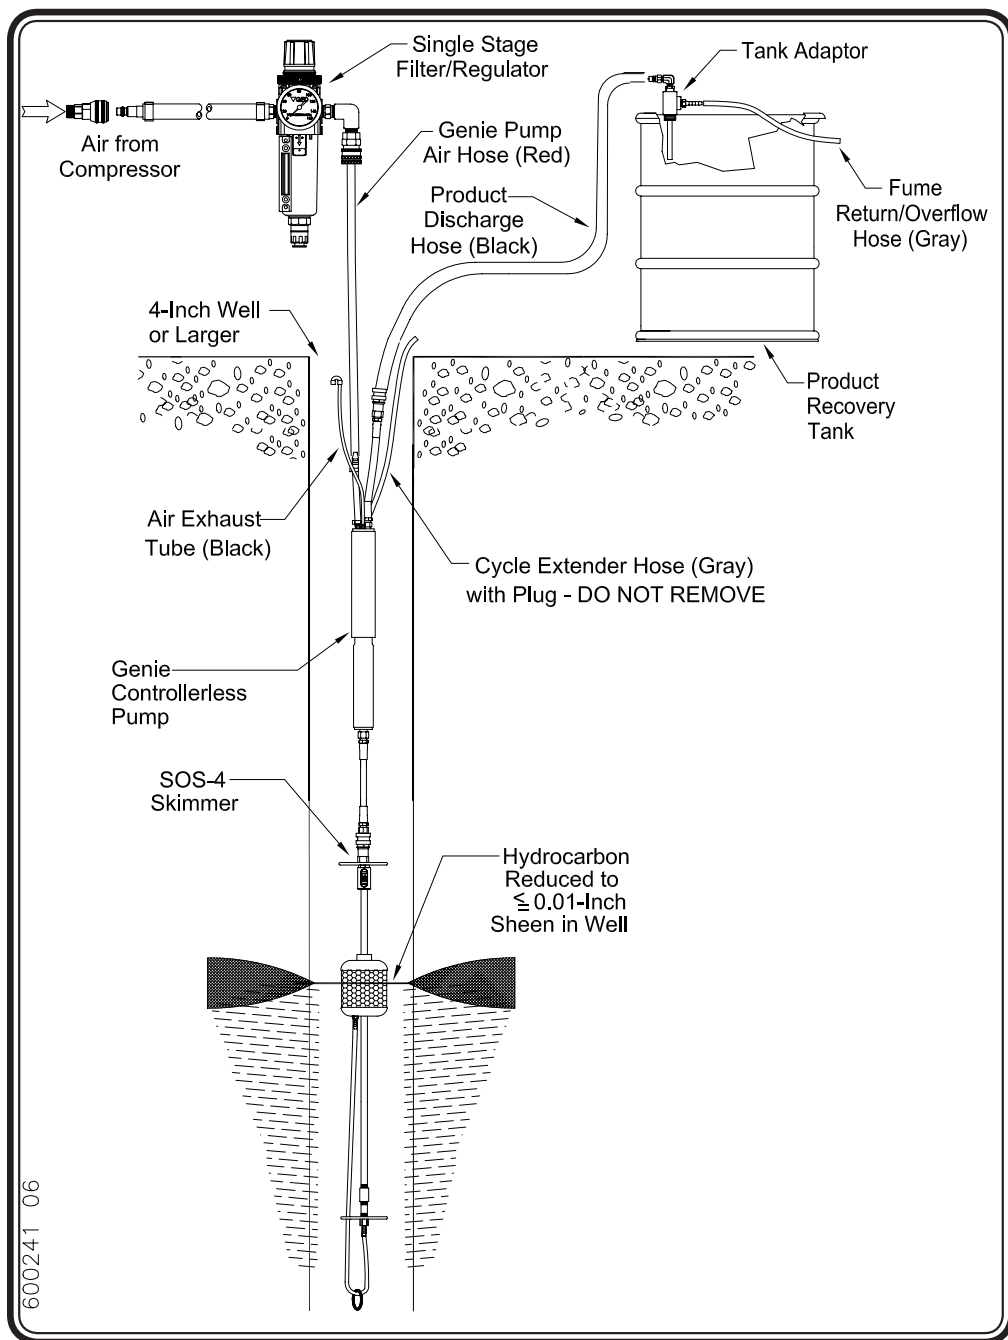

Figure 19 - Genie System with Floating Intake Skimmer (for Product Only)
- a. Attach the male fitting of the Genie pump air hose to the single stage filter/regulator. (See Figure 19)
- a. Push the air exhaust tubing into the red-collared tubing fitting on the pump. (See Figure 19)
- a. Thread the tank adapter into a 3/4 inch NPT fitting on the top of the product recovery tank. (See Figure 19)
- a. Attach the fume return/overflow hose to the tank adapter via hose barb and clamp. **(See Figure 19)**
- a. Attach the female fitting of the product discharge hose to the tank adapter in the product recovery tank. **(See Figure 19)**
- c. Attach the socket on the discharge end of the hose to the single stage filter. **(See Figure 19)**
(See Figure 19)